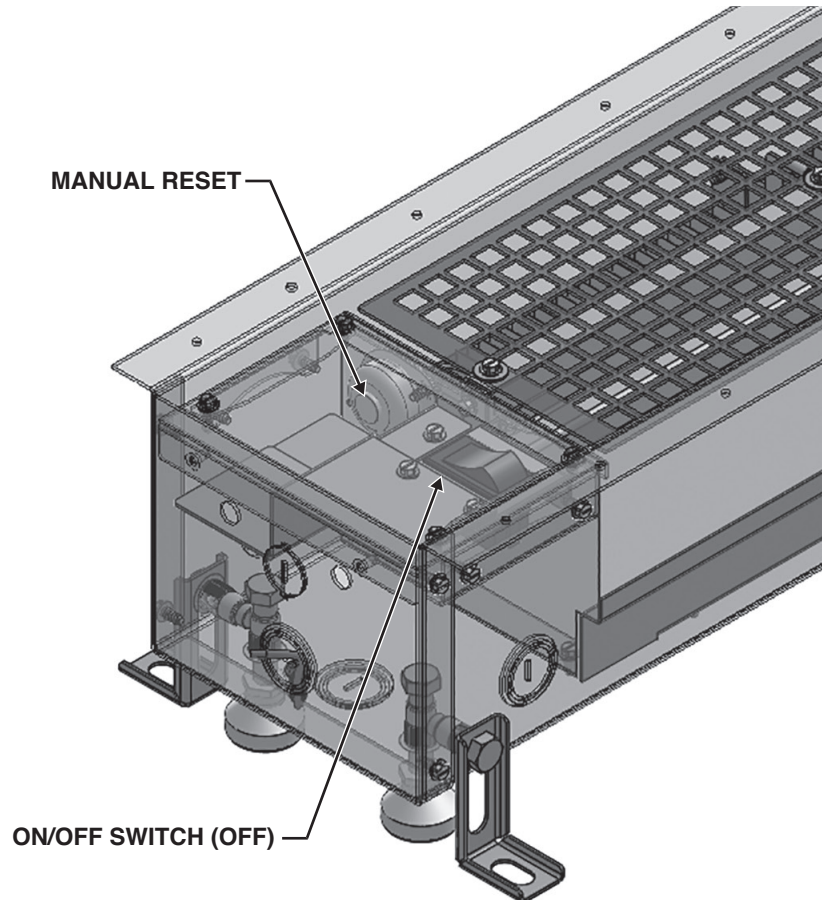

Figure 8: Left Junction Box
**NOTE:** When the on/off switch (rocker type) is provided (see Fig. 8), it can be accessed by removing the grill assembly, cover plate and the splash cover under which it is located. The splash cover bears a label identifying the on/off switch location.
**MANUAL RESET:** These heaters are also provided with a manual reset safety limit (see Fig. 8) to automatically turn off the heater. This is similar to the Thermal Protector, but will require a manual press of a button to allow the heater to regain function. If the unit is not producing heat, verify the heater is free of debris or major airflow restrictions. It is recommended that the circuit breaker be turned off prior to performing the manual reset. To access the manual reset button, remove the grille assembly and the splash cover under which it is located. The splash cover bears a label identifying the manual reset location. The button is located at the center of the body of the manual reset safety limit. Be sure to return the splash cover and grille assembly as previously secured before applying power to the unit.